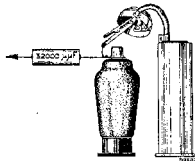

Fig. 2
5. Apply modulated signal of 128 K.C. via 32,000  $\mu\text{F}$  to the fourth grid of L1 (fig. 2).